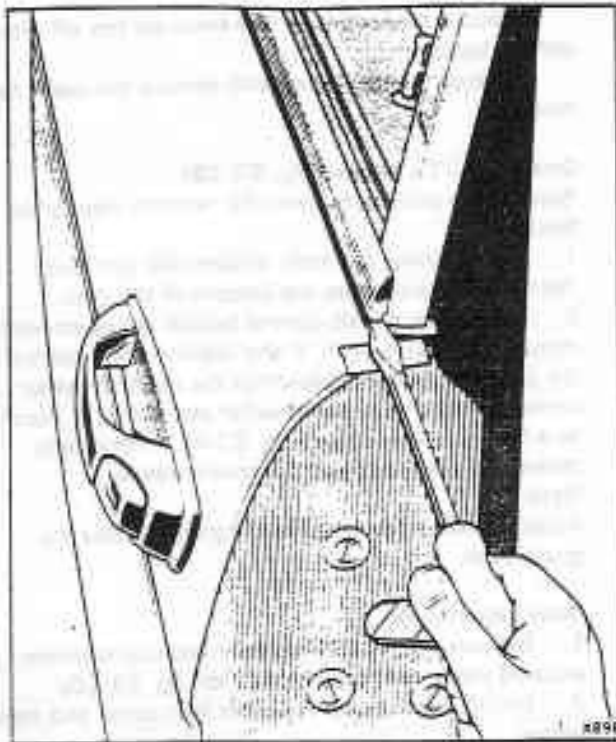

Fig. S3-26 Raising the fence moulding
1. Insert a small sharp screwdriver or similar tool under each end of the moulding in turn (see fig. S3-26). Do not lever on the paintwork. Insert a small piece of rubber or felt to protect the paintwork (see fig. S3-26).